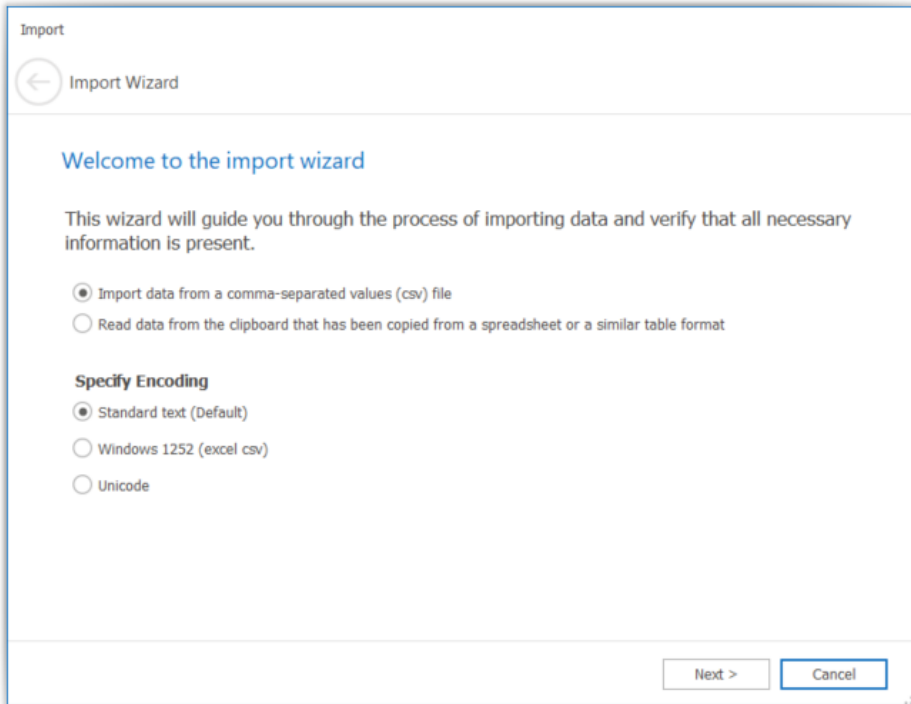

Figure 3 Import Wizard - select data source
2. The import Wizard will open, choose *import data from a CSV* (Figure 3 Import Wizard - select data source). Click *Next*.